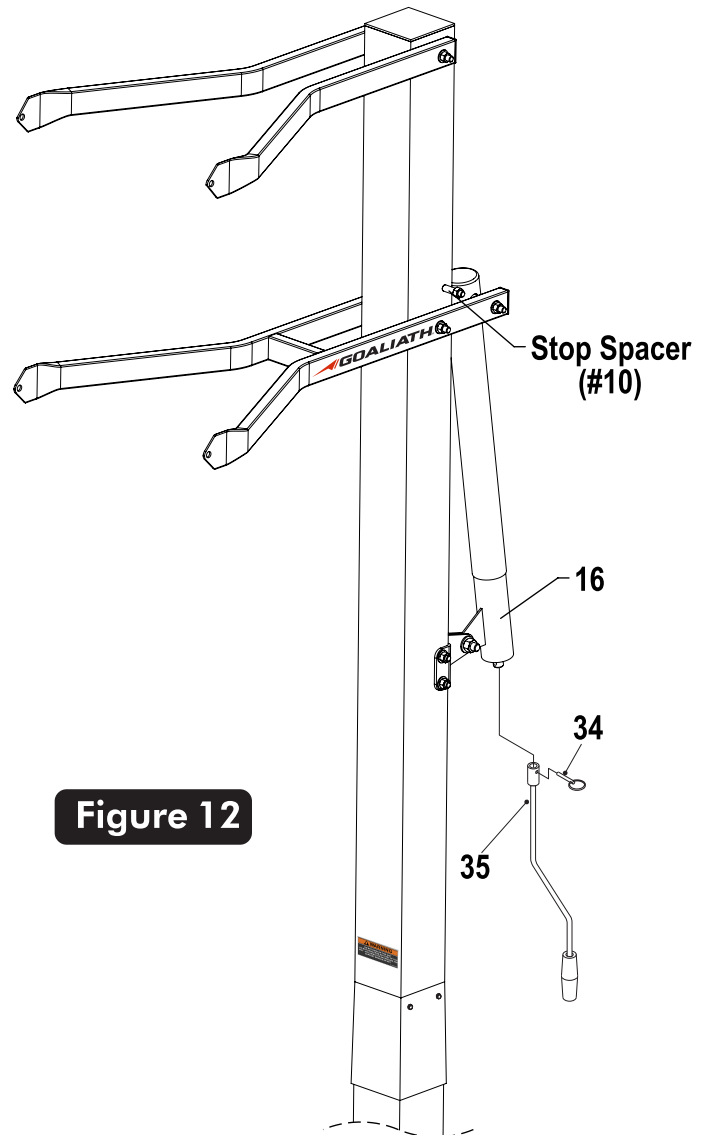

Figure 12
19. Slide Actuator Crank (#35) onto shaft on the bottom of Actuator (#16). Line up hole in shaft with hole in Actuator Crank and insert Pin (#34) to secure. See **Figure 12**.